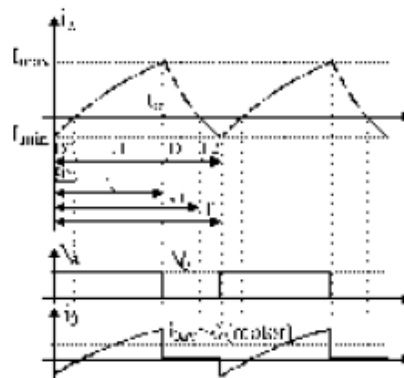

Figure 6.8. Voltage and current waveforms of two-quadrant chopper-fed d.c. motor
- a. Let us first draw the load current which varies from a positive maximum to a negative minimum (Figure 6.8). The conduction intervals for each of the four switches  $T_1, D_2, D_1, T_2$  are